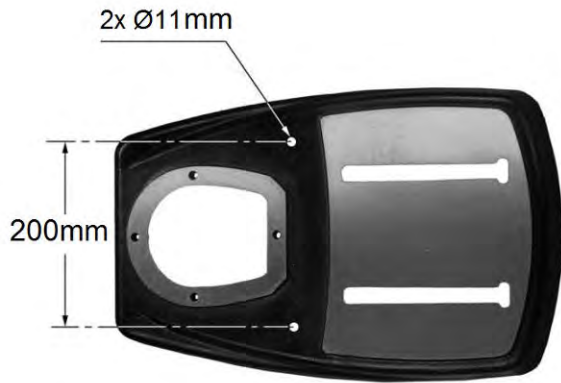

Fig 4
**To avoid tipping, the machine must be bolted down with two lag screws (not provided). Fig 4**